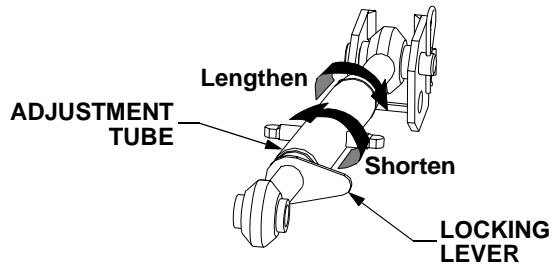

Figure 29
- The length of the upper hitch link is normally determined by the design of each implement. To adjust the upper hitch link, loosen the locking lever and turn the adjustment tube as shown in Figure 29. After the appropriate length is attained, tighten the locking lever. If correctly adjusted, the upper hitch link will be parallel or nearly parallel to the lower hitch links.